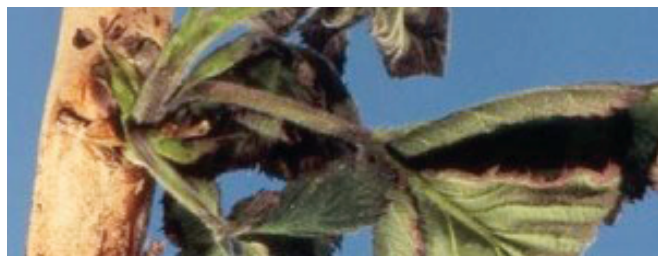

Figure 1: Cane blight symptoms include brown to purple cankers. (Photo: Michael Ellis, The Ohio State University)
- Symptoms include brown to purple cankers (Figure 1) that expand to girdle canes throughout the season. Wilted and dieback are observed in areas above the canker. During periods of high moisture, black fruiting bodies (pycnidia) may be visible.